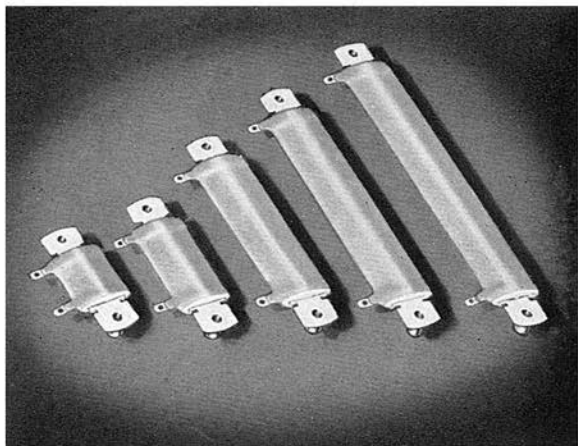

Figure 3-16. Stripohm Fixed Resistors equipped with spring-clip mounting brackets.
Stripohm resistors, Figure 3-16, are especially useful in those applications where space for components is at a premium.
1. *Construction*—Except for the fact that Stripohm resistors utilize a flat, oval-shaped, ceramic base on which the resistive conductor is wound, they are practically identical in construction with Vitrohm tubular resistors. The core or base has a smooth surface with no sharp edges. This design precaution is taken to guard against wire breakage during manufacture. The fact that the core is slightly elliptical in shape, as indicated in Figure 3-16, increases the radiating surface slightly, provides a core considerably stronger than an ordinary flat rectangular base, and insures that the wire lies flat against the entire winding surface.